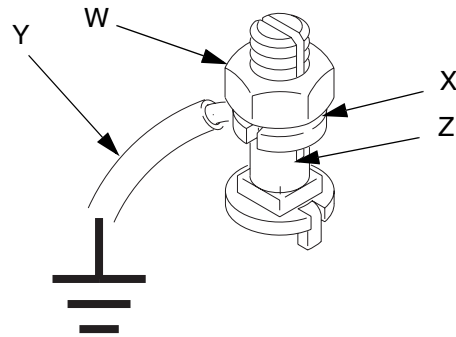

FIG. 5 Ground Screw
**If you have the ground screw (Z) shown in FIG. 5,** loosen the grounding lug locknut (W) and washer (X). Insert one end of the ground wire (Y) into the slot in lug (Z) and tighten the locknut securely. Connect the other end of the wire to a true earth ground. Order 237569 ground wire and clamp assembly.